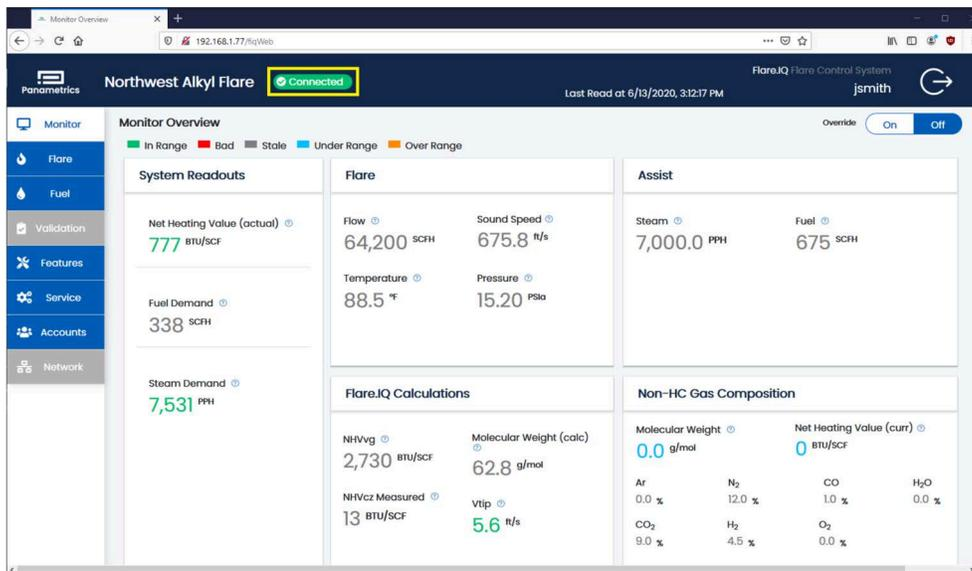

Figure 24: Control page with active Modbus connection
- **Connected** - The DCS has initiated a TCP session with the flare.IQ and is actively sending Modbus requests. This is the normal state of system operation (Figure 24).